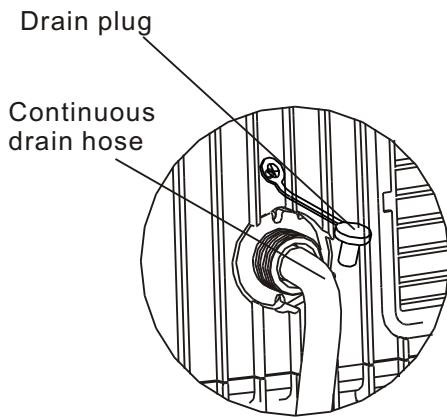

Fig. 9
- Remove the rubber plug at the back of the unit and attach a hose to drain outlet. Place the open end of the hose directly over the drain area in your basement floor (See Fig.9& 10).